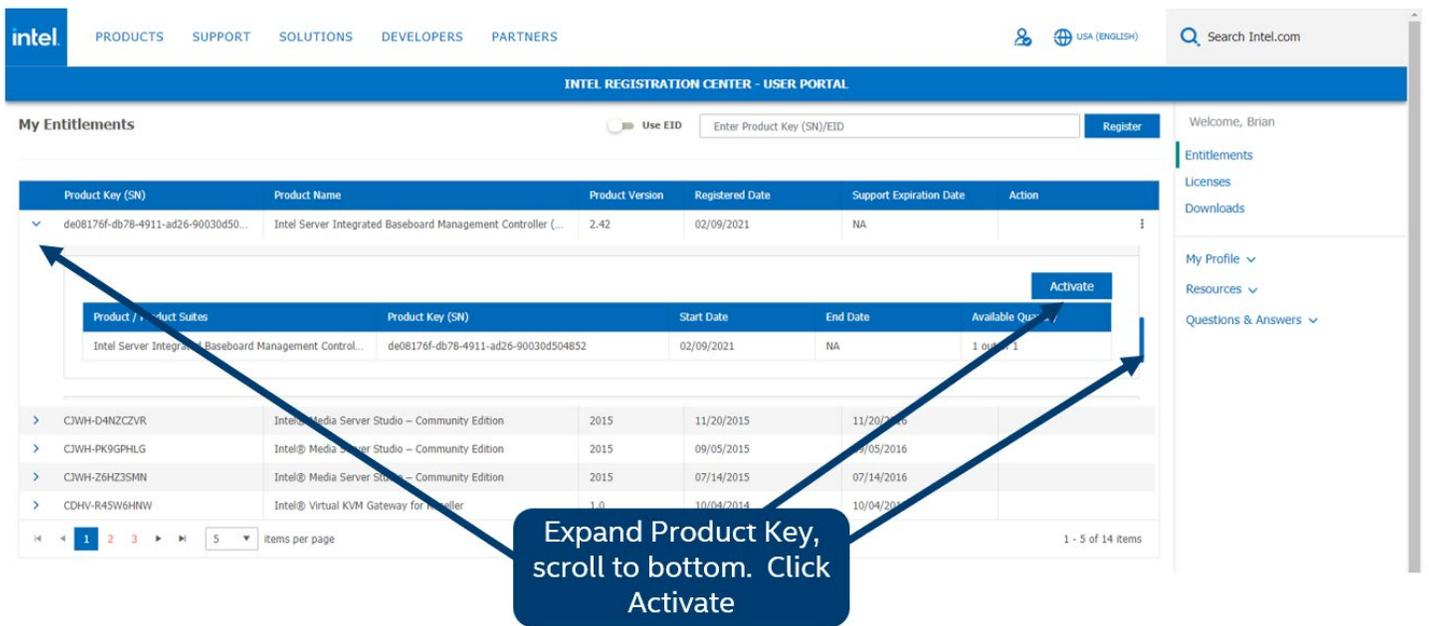

Figure 56. Activate Key
- Activate the license (see Figure 56)